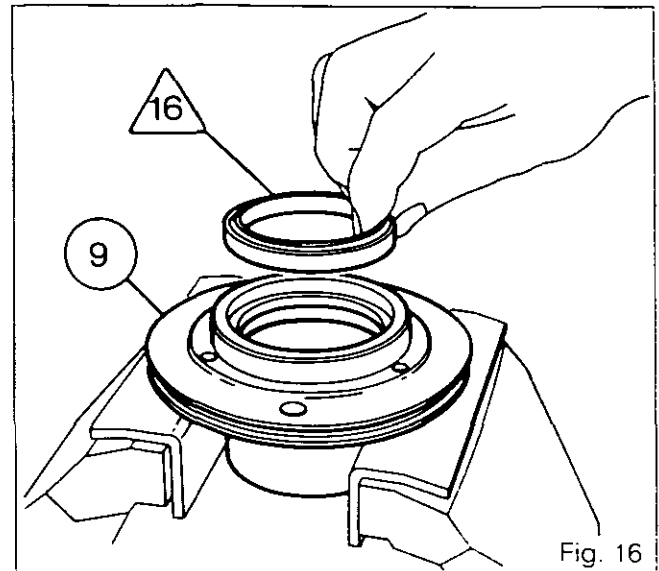

Fig. 16
24. Using a suitable arrangement to support the bearing carrier, press in the scraper ring /16\ (Figs. 16 and 17).
27. Fit the rod (18) after coating it with Loctite 241. Tighten to a torque of 25-35 Nm.
28. Lubricate the guide (17), the seal (14) and the release bearing carrier (9).
29. Position the "O" ring (13) on the guide.
30. Assemble the cylinder (11) with the guide (17).
31. Refit the bolts (12) and (12A).